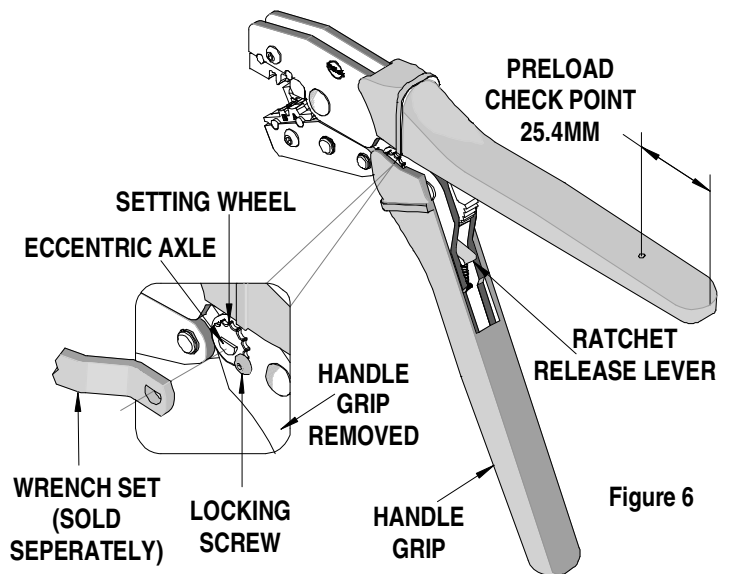

Figure 6
3. Make certain all pins; pivot points and bearing surfaces are protected with a thin coat of high quality machine oil. Do not oil excessively. The 63811-3300 was engineered for durability but like any fine piece of equipment it needs cleaning and lubrication for a maximum service life of trouble free crimping. Light oil such as 30 weights automotive oil used at the oil points shown in Figure 6, every 5,000 crimps or 3 months, will significantly enhance the tool life.
Should this tool ever become stuck or jammed in a partially closed position, **Do Not** force the handles open or closed. The tool will open easily by pressing the ratchet release lever (See Figure 6).
How To Adjust Tool Preload (See Figure 6)